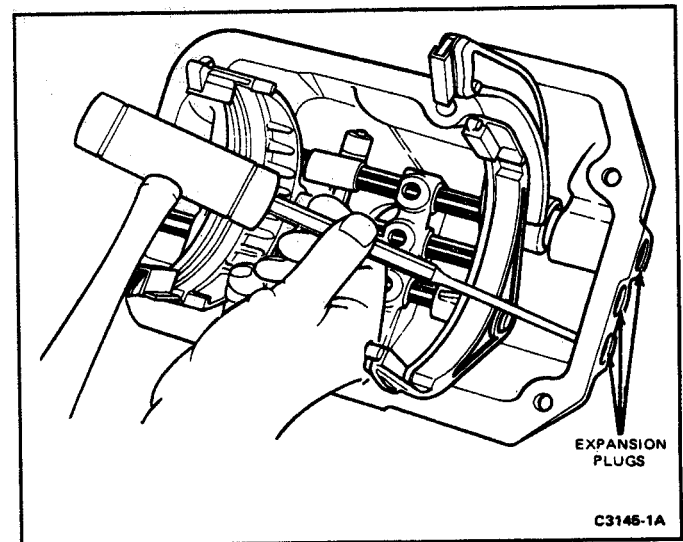

FIG. 18 Removing Expansion Plugs from Shift Housing
5. Remove the three expansion plugs from the forward end of the shift housing (Fig. 18). Using a pin punch, remove the three lock pins from the shift forks and the three lock (roll) pins from the gear shifter shaft gates.